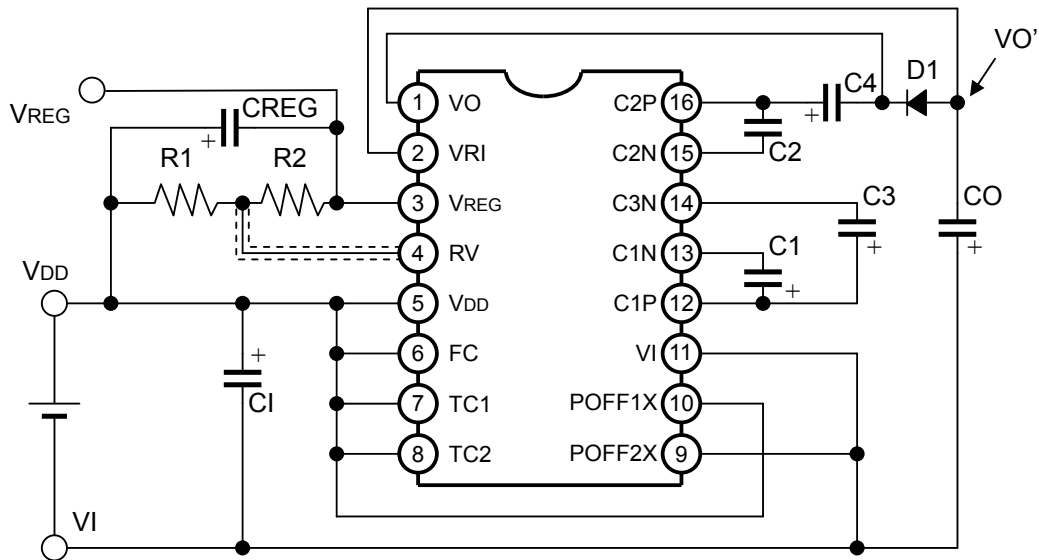
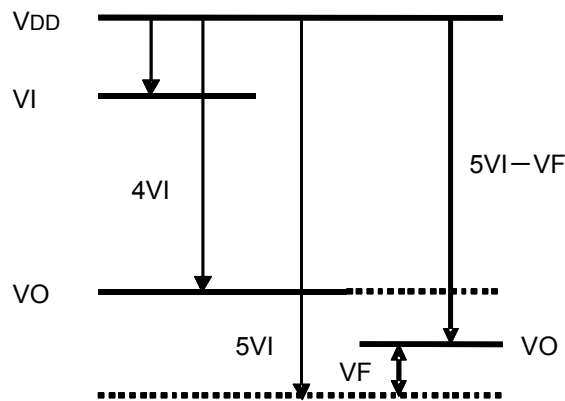

Fig.9.9 Quintuple boosting connection example using one diode
Fig.9.10 Quintuple-boosting potential relation using one diode
Fig.9.9 shows a “quintuple boosting + regulator” connection example with one diode used. The cable from VO to VRI must be as short as possible. Fig.9.10 shows the electric potential relation diagram.
- ◇ Fig.9.9 Setting conditions
When loading a diode for boosting, the diode characteristics directly affect the boosting characteristics. Especially using the VF pin (forward voltage lowering) in a diode causes the boosting output voltage to be reduced. In the connection example shown in Fig.9.9, one diode is used; therefore, be sure to drop the voltage by VF as shown in Fig.9.10. The boosting output voltage is indicated in the following expression.
In the example shown in Fig.9.9, “ $80\text{mA} \div 5 = 16\text{mA}$ ” is used as the maximum load current.
In the circuit shown in Fig.9.9, VI must satisfy input voltage conditions (see Table 7.1) at quintuple boosting.